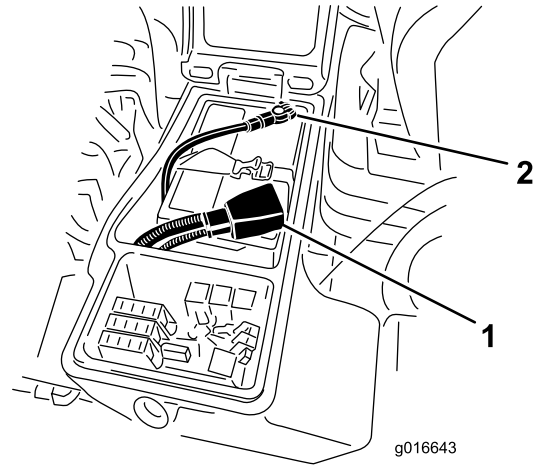

Figure 86
6. Install the positive cable (red) to the positive (+) terminal and the negative cable (black) to the negative (-) terminal of the battery (Figure 86).